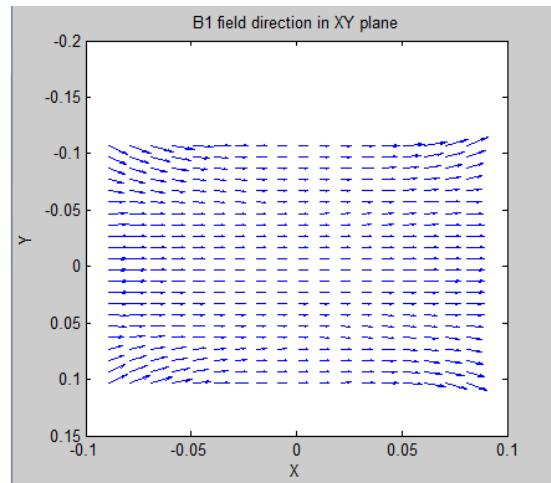

Figure 5.41: An Example of B1 Field on XY Plane.
- ^ : Undock B1 field on active B1 slicing plane (Figure 5.41)